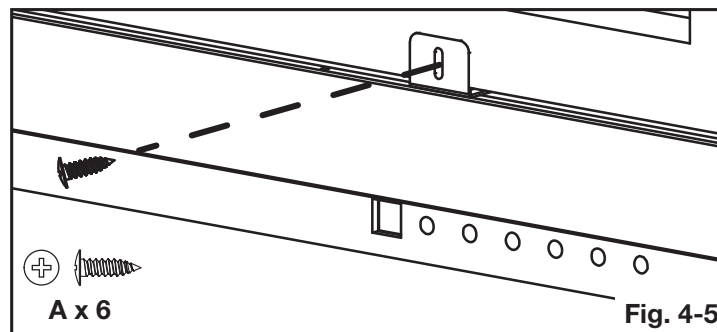

Fig. 4-5
1. Secure the appliance to the rough-in framing by installing 6 screws (supplied) through the metal brackets (**Fig. 4-5**).